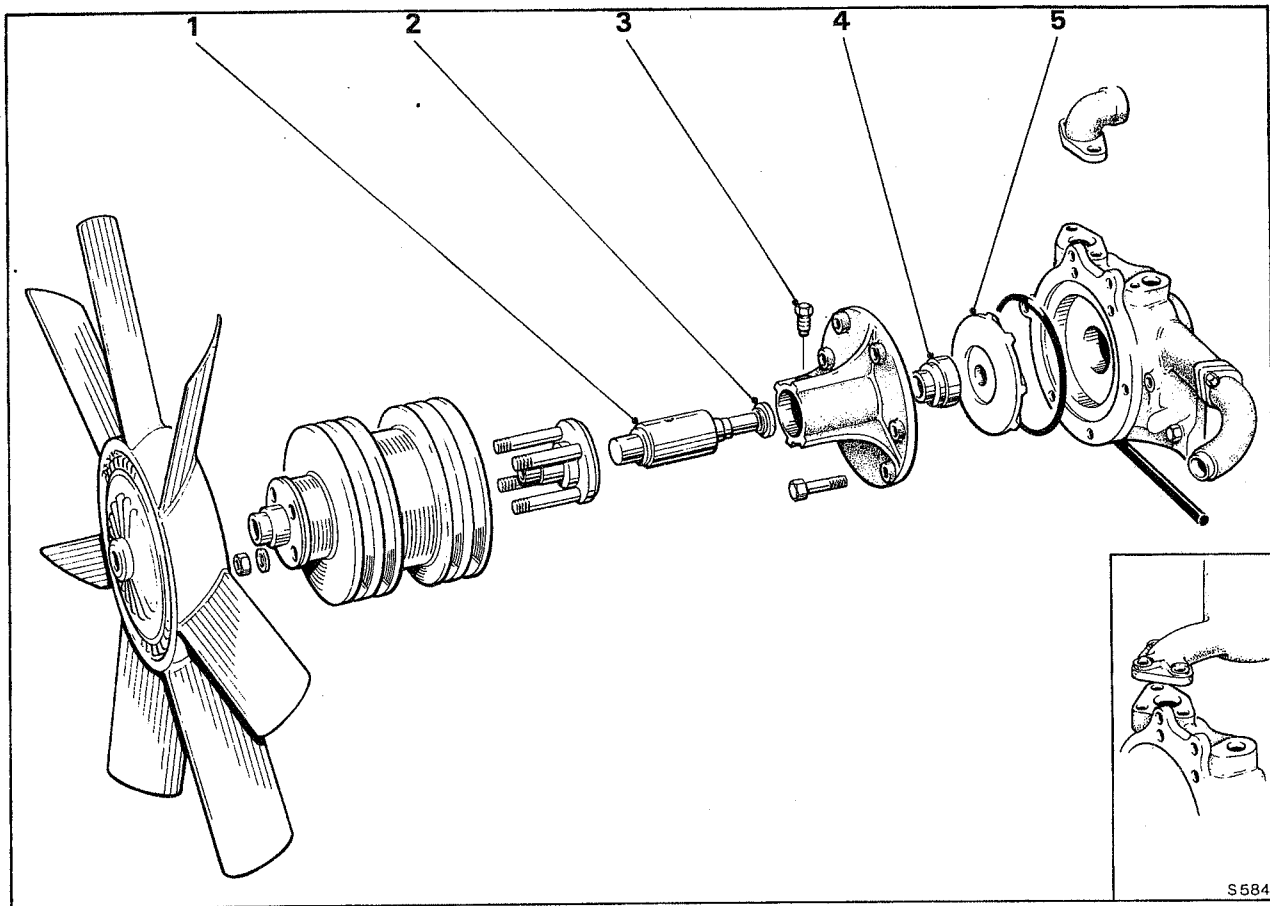

Fig. L5 Coolant pump. Exploded view
All moving parts can be withdrawn, complete with the bearing housing. (see Fig. L5).
3. Fit the sealing gland assembly into the impeller end of the bearing housing. The assembly must lie flush with the end of the housing (see Fig. L5).